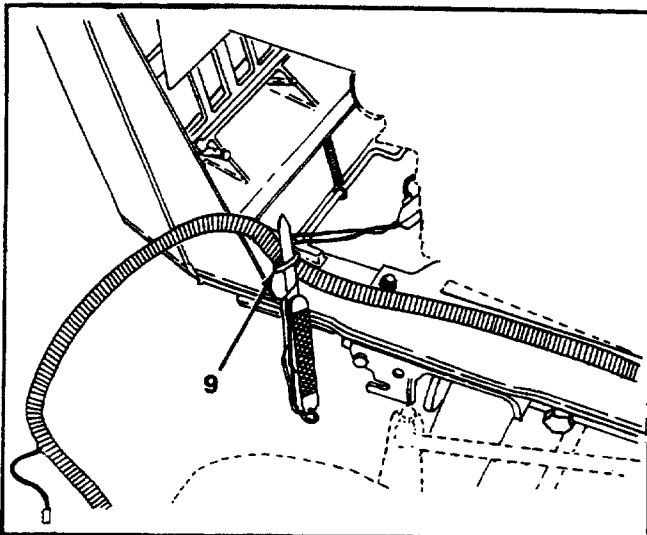

FIGURE 6.
7. Cut the cable tie located on bottom left hand side of grille. See figure 6. Discard cable tie.